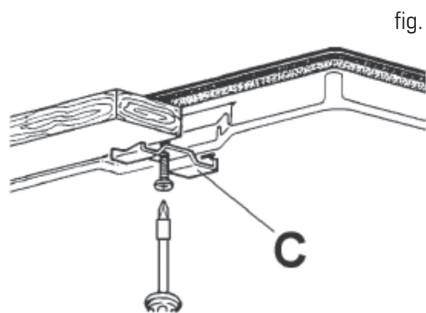

fig. 4
- Place the hob in the unit opening and fix it with screws (V) of brackets (G) (fig. 4).